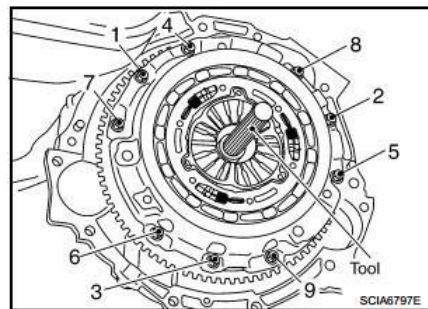

Figure 4
25. Install clutch disc and pressure plate using an splined alignment tool per Nissan FSM. Tighten to specified torque evenly in two steps in order as shown in *Figure 4*. First torque to 11ft-lbs, and then 29ft-lbs.